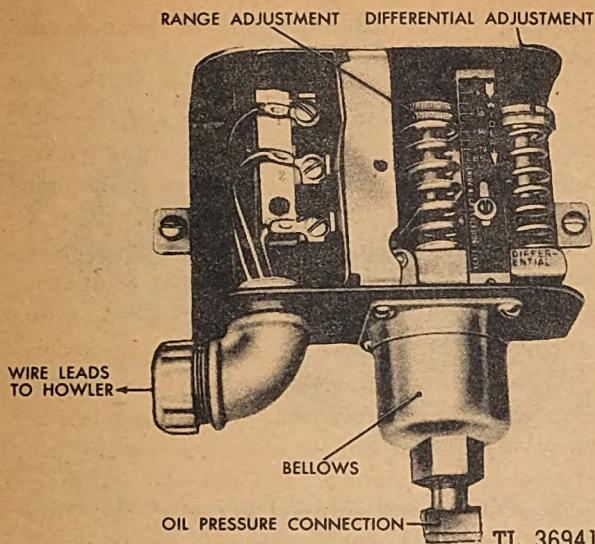

Fig. 289. Oil Pressure Switch
a. **Oil-Pressure Switch.** The oil-pressure switch is all-metal construction. The springs, levers and pins are plated to resist rust and corrosion. The contacts are contained in a small bakelite case, made moistureproof by means of a tightly fitting, molded rubber cap and a flexible rubber seal on the contact-operating push rod. The low-pressure setting at which the switch should cause the howler to sound should be somewhere between 7 and 10 pounds. If this switch must be readjusted, proceed as follows, referring to Figure 289.
- (1) Turn the differential adjustment (see Figure 289) to approximately 17 pounds.
- (2) Place the range adjustment somewhere between 7 and 10 pounds.